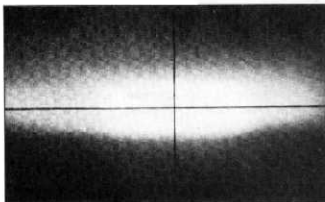

Fig. 59—Properly Aimed Headlamp Beam
- Install headlamp rim and adjust the opposite light in the same manner. Figure 59 illustrates a headlamp correctly aimed. It is not necessary to adjust the headlamp for the lower beam.